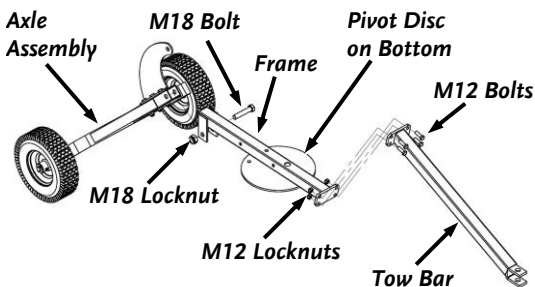

Figure 4
3. Position the Frame so that the Pivot Disc is on the Bottom (Figure 4). Install the Tow Bar to the Frame so that it is angled down using four M12 X 40 Bolts and Locknuts. Tighten the hardware using two 19 mm Wrenches.